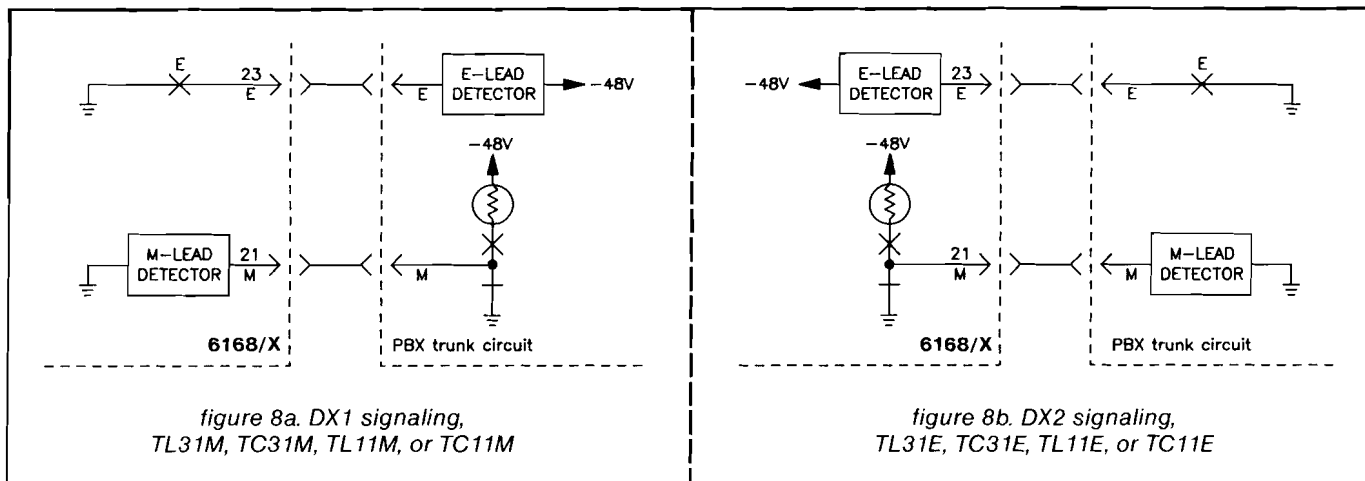

figure 8. Type I E&M interface arrangements
2.15 The 6168/X can be switch-optional to derive either a Type I (single-lead) or a Type II or III (looped-signaling-lead) E&M interface. The Type I and Type II interfaces can be used with either DX1 or DX2 signaling. The Type III interface can be used with DX1 signaling only. Figures 8 through 10 show the connections required for Type I, II, and III E&M interfaces with DX1 and DX2 signaling and indicate the Registered Facility Interface Codes (if applicable) that each signaling arrangement fulfills. Table 4 summarizes these codes and the DX1/DX2 signaling and E&M interface options required for each.